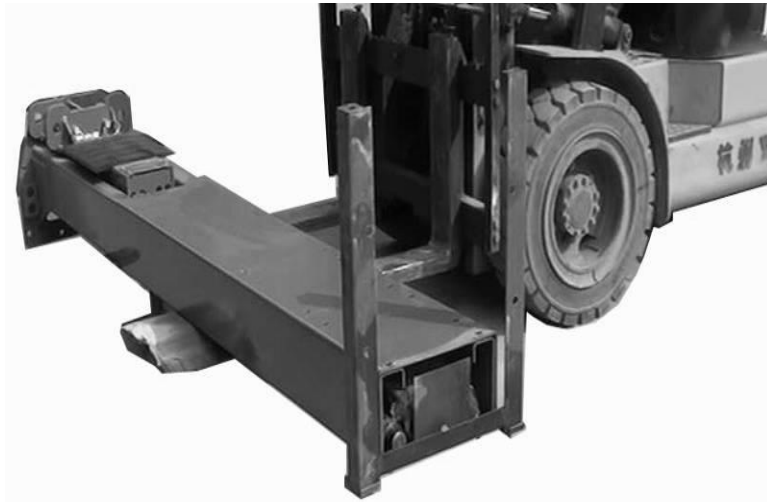

Fig. 9
4. Lift the lower column with a fork lift or hoist, take down the package stand, than take off the lower extension column, take out the parts in the inner column (**See Fig. 9**).